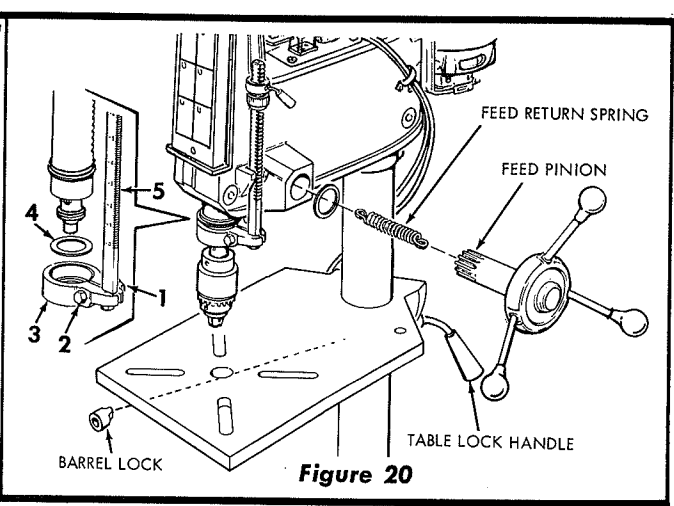

Figure 20
1. Clamp the quill with quill lock handle; loosen the 1/4-20 feed stop collar clamping nut (1, figure 20), reposition feed stop collar (3) upward as far as it will go, then tighten the feed stop collar clamping nut (1).
2. Make sure the feed stop rod (5) is positioned properly in the guide slot of the frame.
When the feed stop collar is removed in order to install the mortising attachment (Catalog No. 9-2460), use the washer (4, figure 20) in the mortising attachment clamping collar and eliminate spindle play as described in preceding paragraphs.
To change the locked position of table lock handle or frame lock handle, unscrew the handle from barrel lock and rotate barrel lock 180°. Re-insert the lock and tighten lock handle (See figure 20.)
If the automatic feed return fails to return the chuck to the top of the stroke, or if the return action becomes sluggish, check belt tension for over-tightness. If belt tension is correct, the feed return tension may be adjusted as follows: (See figure 20.)